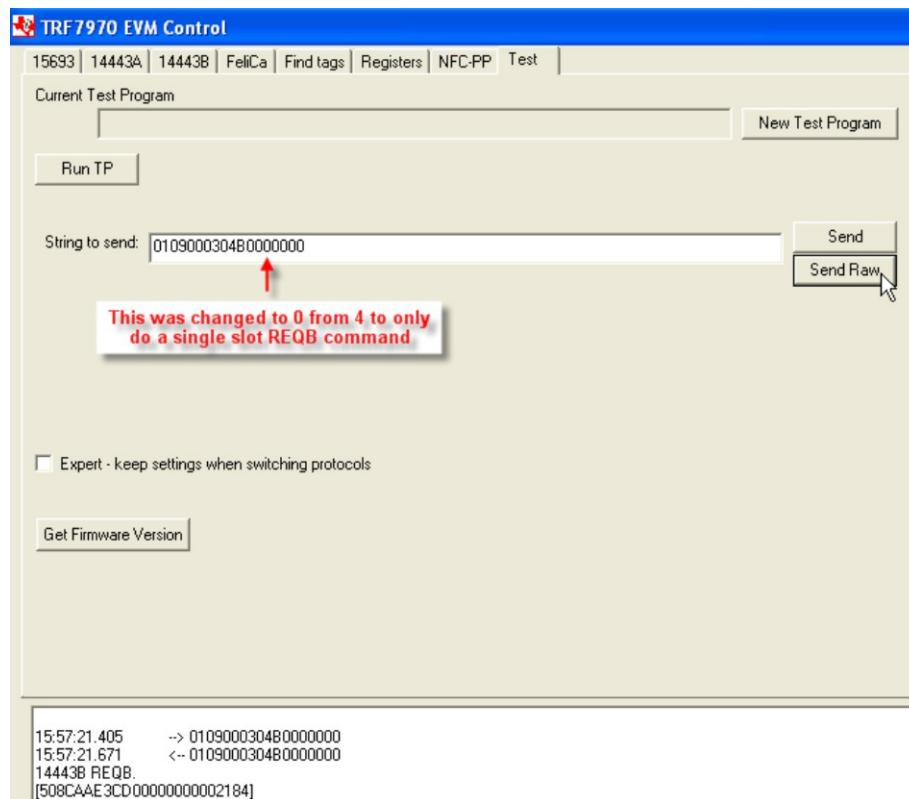

Figure 42. Sending Single Slot REQB
3. To retrieve the PUPI from an ISO14443B tag on which anticollision has been disabled (this is most often the instance for ISO14443B cards that are being used for payment applications), thus requiring a single slot REQB to be sent. Notice in Figure 42 that the Send Raw button is used. This could have also been sent using the Send button with only *B000* as the String to send.